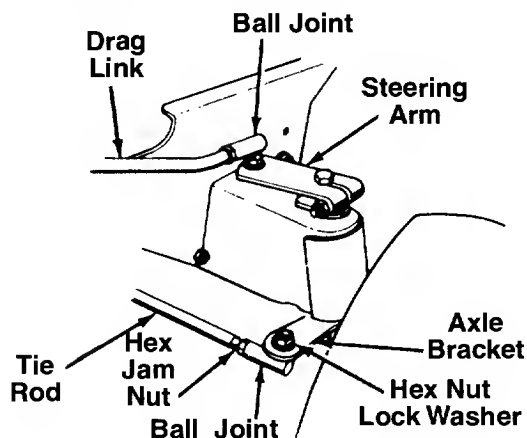

FIGURE 22.—Units with adjustable tie rods
1. Remove the hex nut and lock washer, and drop the end of the tie rod from the axle bracket. See figure 22.